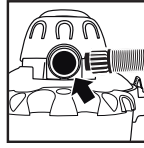

FIGURE 23
42. Your vacuum can be used as a powerful blower. To use your unit as a blower, clear hose of any obstructions. Insert machine hose end into blower port on rear of unit. **FIGURE 23.** Twist slightly to tighten the connection. Caution